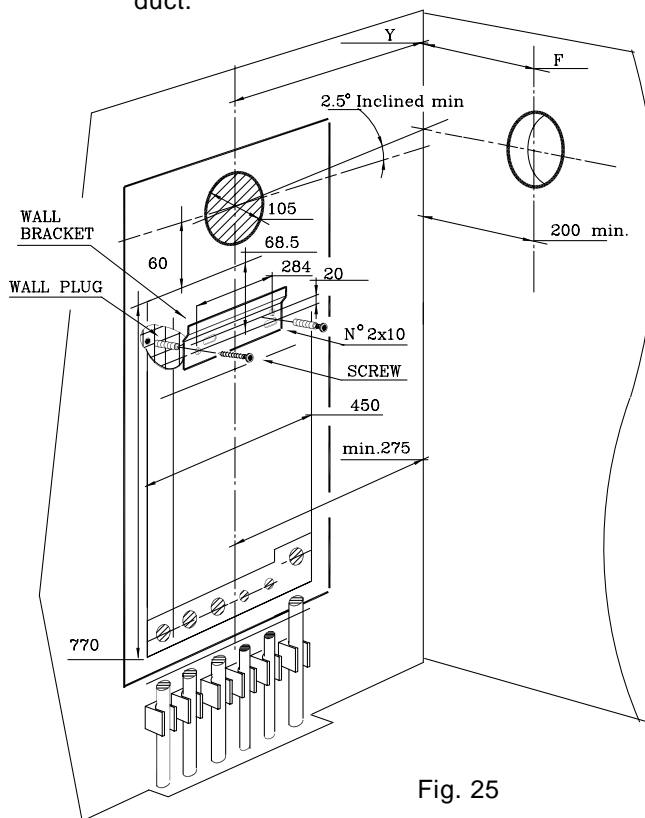

Fig. 25
- Attach the template to the wall with adhesive tape, making sure that the centre line is vertical and that the distance from the centre line to the nearest side wall is not less than measurement in Fig. 25.